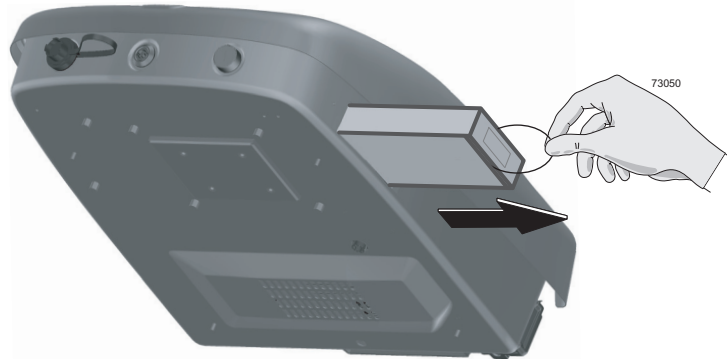

Figure 6-11. Remove the air filter (7900 IP65 version)
4. Fit the new, Linx-approved, replacement filter into the filter housing. Make sure that you correctly fit the filter—the direction of the handle must be away from the printer, as shown in Figure 6-11.